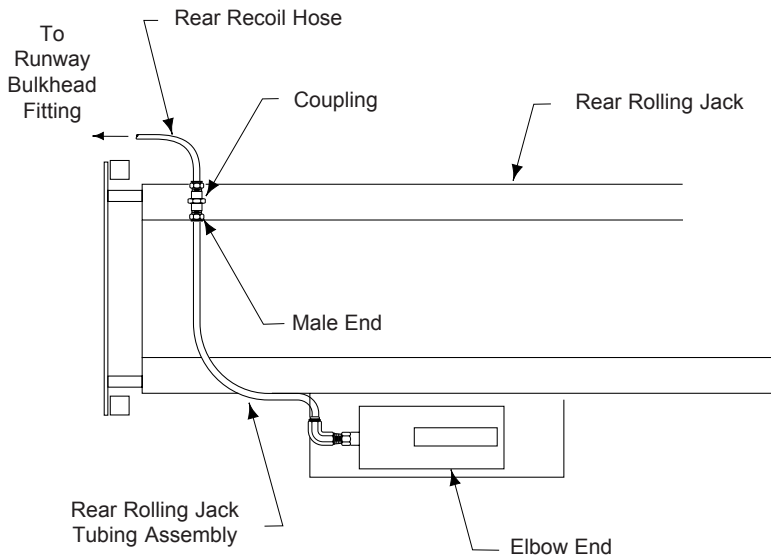

Fig. 36 REAR ROLLING JACK TO RECOIL AIR HOSE
- C. Connect one end of provided rear recoil hose to bulkhead T-fitting at midpoint of runway. Connect other end of recoil hose to coupling welded on rolling jack, Fig. 36 and 38.
- D. Connect elbow end of rolling jack tubing assembly to air pump and male end to the coupling, Fig. 36 and 38.